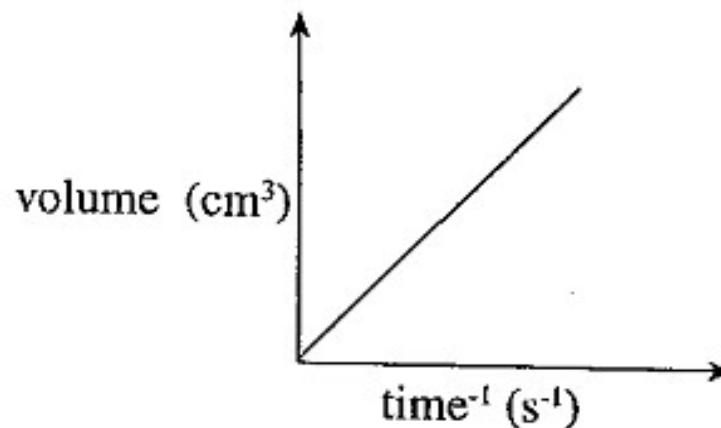

Fig 11.4b Graph of volume of sodium thiosulphate against time⁻¹
- Figure 11.4b shows that the **rate of the reaction increases** with **increase in volume of sodium thiosulphate solution.**